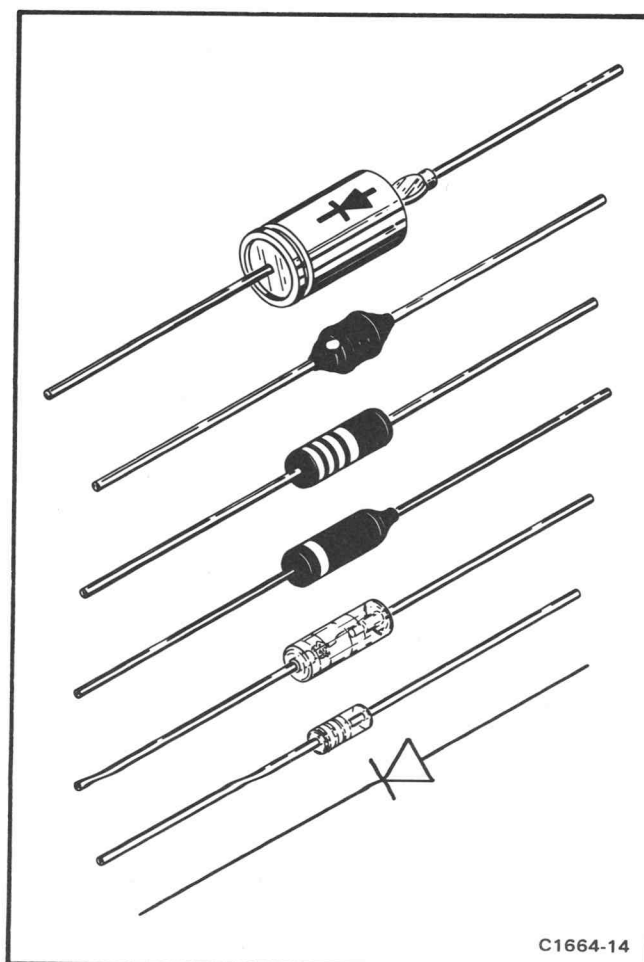

Fig. 4-3. Diode polarity markings.
Diode Color Code. The cathode of each glass encased diode is indicated by a stripe, a series of stripes, or a dot. Some diodes have a diode symbol printed on one side. Figure 4-3 illustrates diode types and polarity markings that are used in this instrument.
d. Use only good components for substitution and be sure the new component is inserted into the socket properly before soldering. Refer to the manufacturers data sheet or Fig. 4-3 for lead configuration.